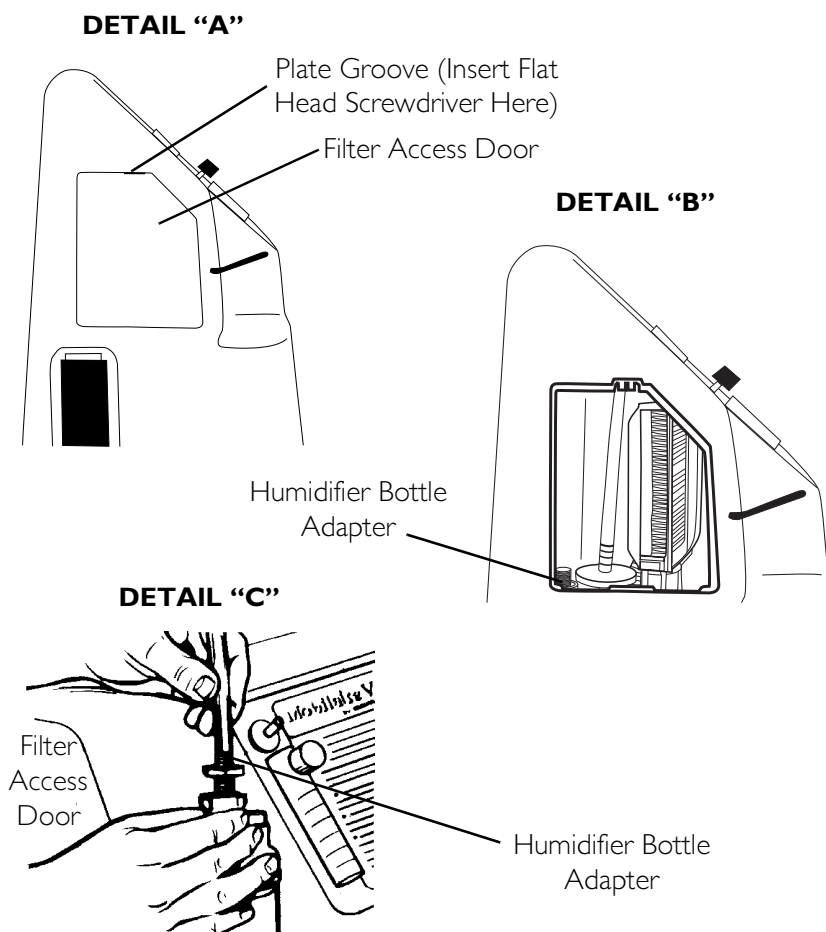

FIGURE 5.3 Attaching the Humidifier Bottle Adapter
3. Remove the filter access door located on the side of the concentrator. Insert a flathead screwdriver in the plate groove on the top edge of the filter access door and gently pry the filter access door open. Refer to Detail "A" in FIGURE 5.3.
4. The humidifier adapter is next to the inlet filter. Pull up and remove the humidifier bottle adapter. Refer to Detail "B" in FIGURE 5.3.
5. Attach it to the humidifier by turning the wing nut on the humidifier bottle counterclockwise until it is securely fastened. Refer to Detail "C" in FIGURE 5.3.